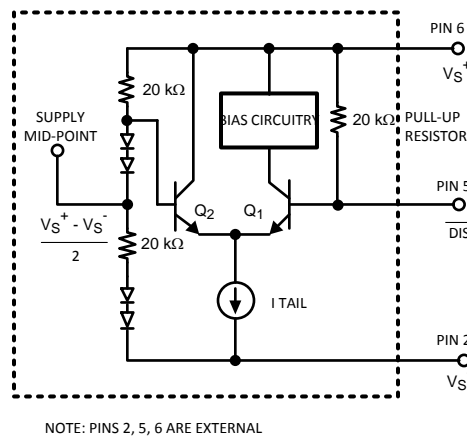

Figure 22. DIS Pin Simplified Schematic
The LMH6704 has a TTL logic compatible disable function. Apply a logic low ($<.8\text{V}$) to the DS pin and the LMH6704 is disabled. Apply a logic high ($>2.0\text{V}$), or let the pin float and the LMH6704 is enabled. Voltage, not current, at the Disable pin (DS) determines the enable/disable state. Care must be exercised to prevent the disable pin voltage from going more than $.8\text{V}$ below the midpoint of the supply voltages (0V with split supplies, $V^+/2$ with single supply biasing). Doing so could cause transistor Q1 to Zener resulting in damage to the disable circuit (See Figure 22 or the simplified internal schematic diagram using SOT-23 package pin numbers). The core amplifier is unaffected by this, but the disable operation could become permanently slower as a result.